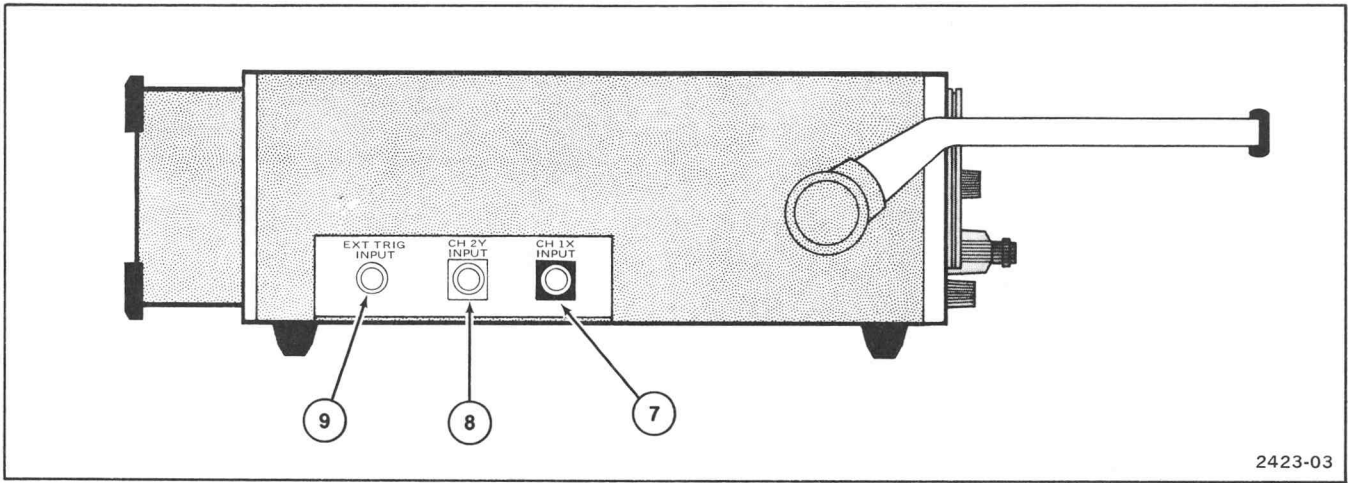

Fig. 2-4. Left side view of instrument cabinet.
- 7 **CH 2 [Y] INPUT.** Connector used to apply an external signal to the Channel 2 vertical deflection system. The Channel 2 input signal provides the Y-axis deflection (vertical) in the X-Y mode of operation (Fig. 2-4).
- 8 **EXT TRIG INPUT.** Connector used to apply an external trigger input signal to the trigger generator circuit (Fig. 2-4).
(horizontal) (Fig. 2-4). The maximum safe ac or dc voltage coupled to the CH 1 input connector (also applicable for CH 2 or EXT TRIG INPUT) is 250 V (dc + peak ac).